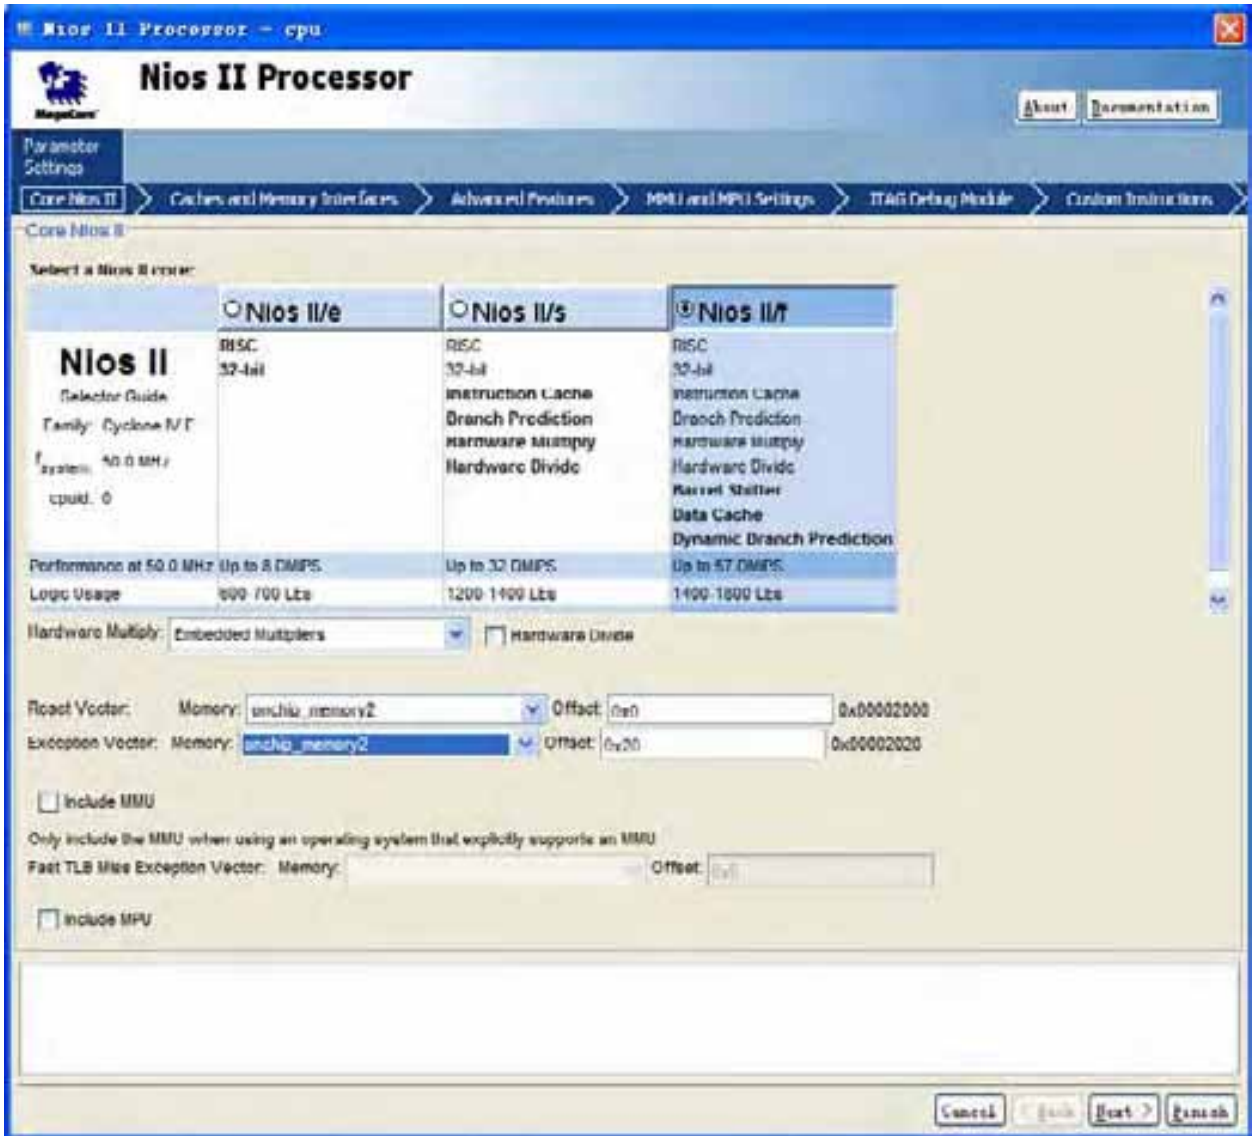
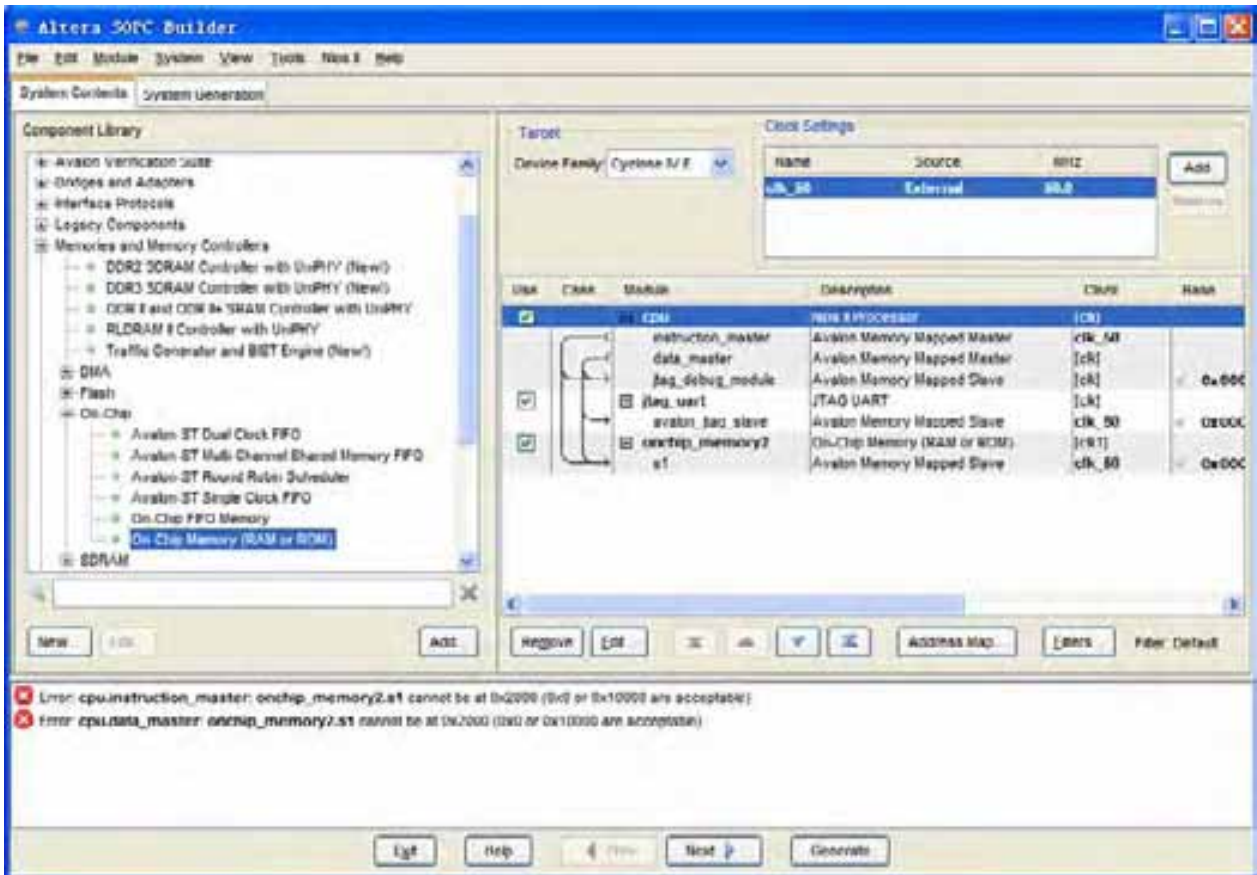

Figure 7-28 Update CPU settings
Figure 7-29 Updated CPU settings
18. Right click on the `cpu` component table and select **Edit...** from the list. Update the Reset Vector and Exception Vector as shown in Figure 7-28. Then, click **Finish** to return to the window as shown Figure 7-29.